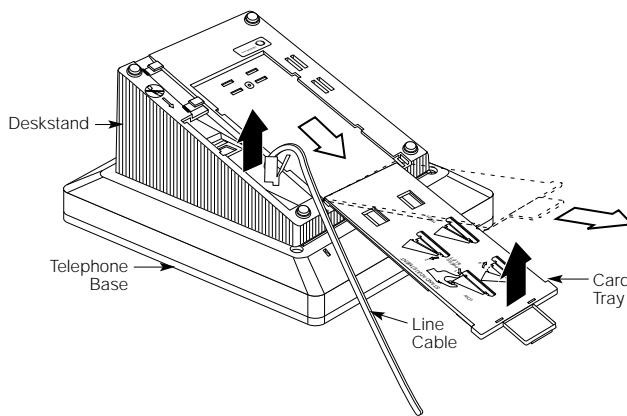

Figure 3-2. Removing the User Card Tray and Line Cable
- ▶ 1. Place the telephone face down on a flat surface; remove the user card tray and line cable from the bottom of the deskstand. See Figure 3-2.